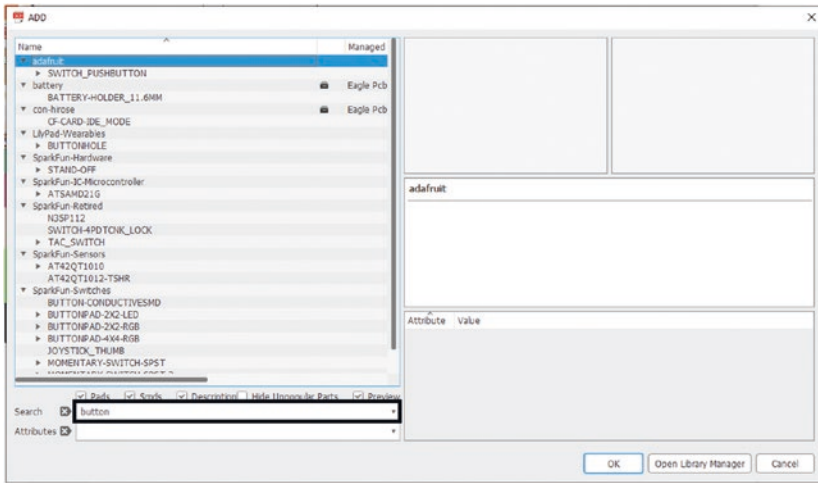

Figure 5-27. Search for button
14. Press escape again (or click the “ADD” button). In the search bar, type in “button” and press enter. See Figure 5-27.